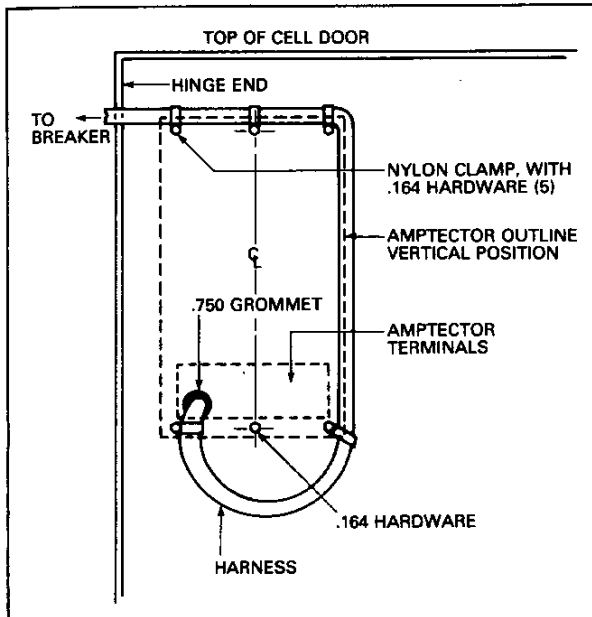

Fig. 10 Amptector Wiring Harness Mounting Details
10. Viewing from the back of the cell door, remove the .25-20 nut and washer from the screw that is below and to the left of the grommet hole. Attach a nylon clamp on the harness and secure with the nut and washer. Fig. 10.
11. At this point estimate the amount of harness required between the top of the right front frame of the breaker and the harness clamp which will be located at the left top amptector securing screw, Fig. 10. There should be enough harness length for the breaker to be in **full connect position**.